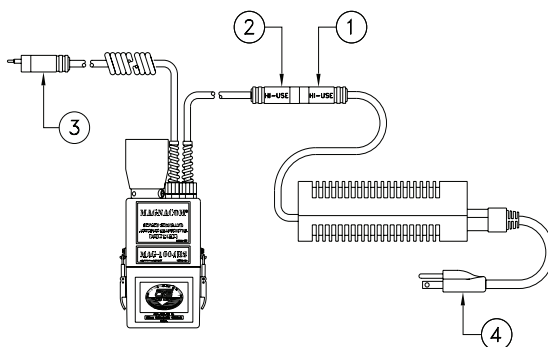

Figure 5
1. Connect the RCS-3U-HIU charger to the transceiver's EM Hi-Use® connector (Fig. 5, #1 and 2).
2. Connect the charger's power input cord (Fig. 5, #4) to the AC power source (90–260 VAC, 50–60 Hz).